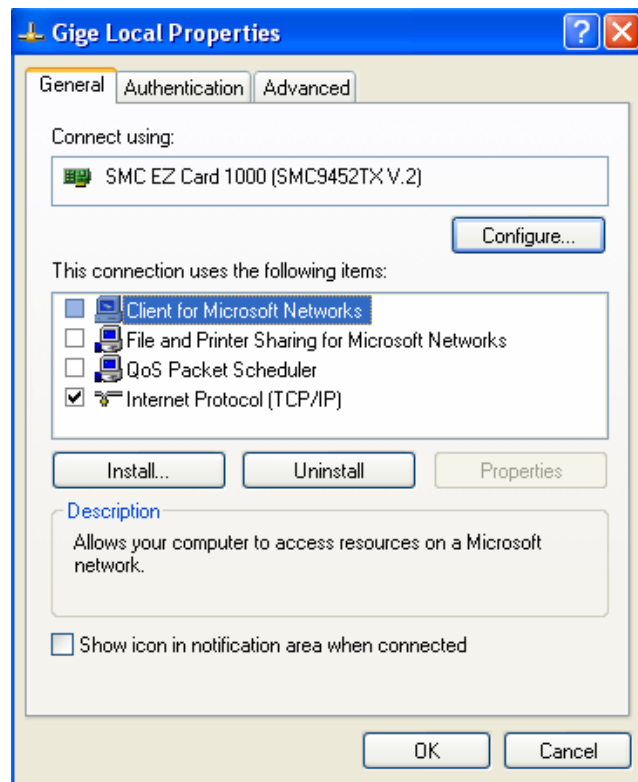

Figure 5. Network card main properties window.
- Once the driver is installed, open the Network Connections Dialog as follows: From the Windows desktop select *start*, then select **Control Panel**, then double click on the **Network Connections** icon. Double click the relevant network card listed or right-click the relevant network card and select **Properties**. This will open the properties window for your network card. See Figure 5.
- Return to the Gige Local Properties window as in Figure 5. Select the Advanced tab as in Figure 7 and disable the Firewall for this device. Click **OK** to save changes.